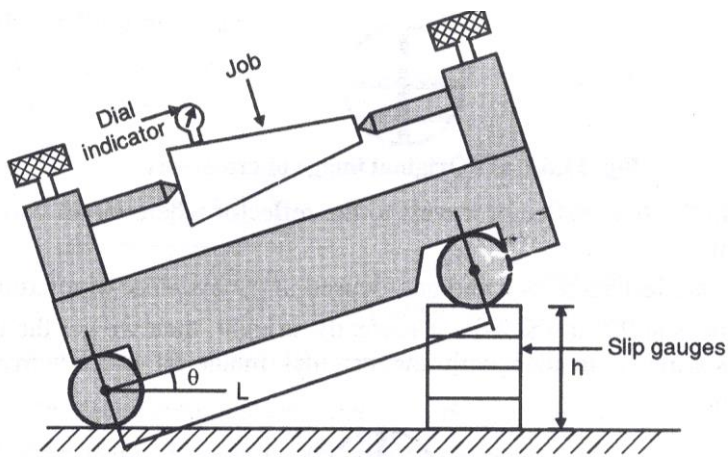

Fig. 11.5.1 : Sine centre
- It is the extension of sine bars where two ends are provided on which centers can be clamped, as shown in Fig. 11.5.1.